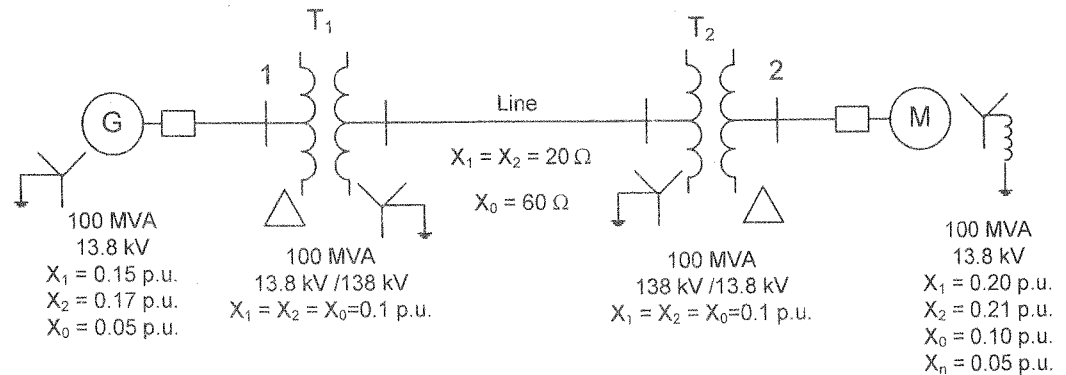

Figure Q1
- c) A single line diagram of a power system is shown in Figure Q1. The neutrals of the generator and the transformers are solidly grounded. The neutral of the motor is grounded through a reactance of  $X_n = 0.05$  per unit on the motor base.
- i) Draw the per unit sequence network diagrams for the single line diagram shown in Figure Q1.
- ii) Calculate the fault current in per unit for a single line to ground fault in phase 'a' at the bus 2 in the power system shown in Figure Q1, by taking the pre-fault voltage ( $V_F$ ) as  $1.05 \angle 0^\circ$  per unit.